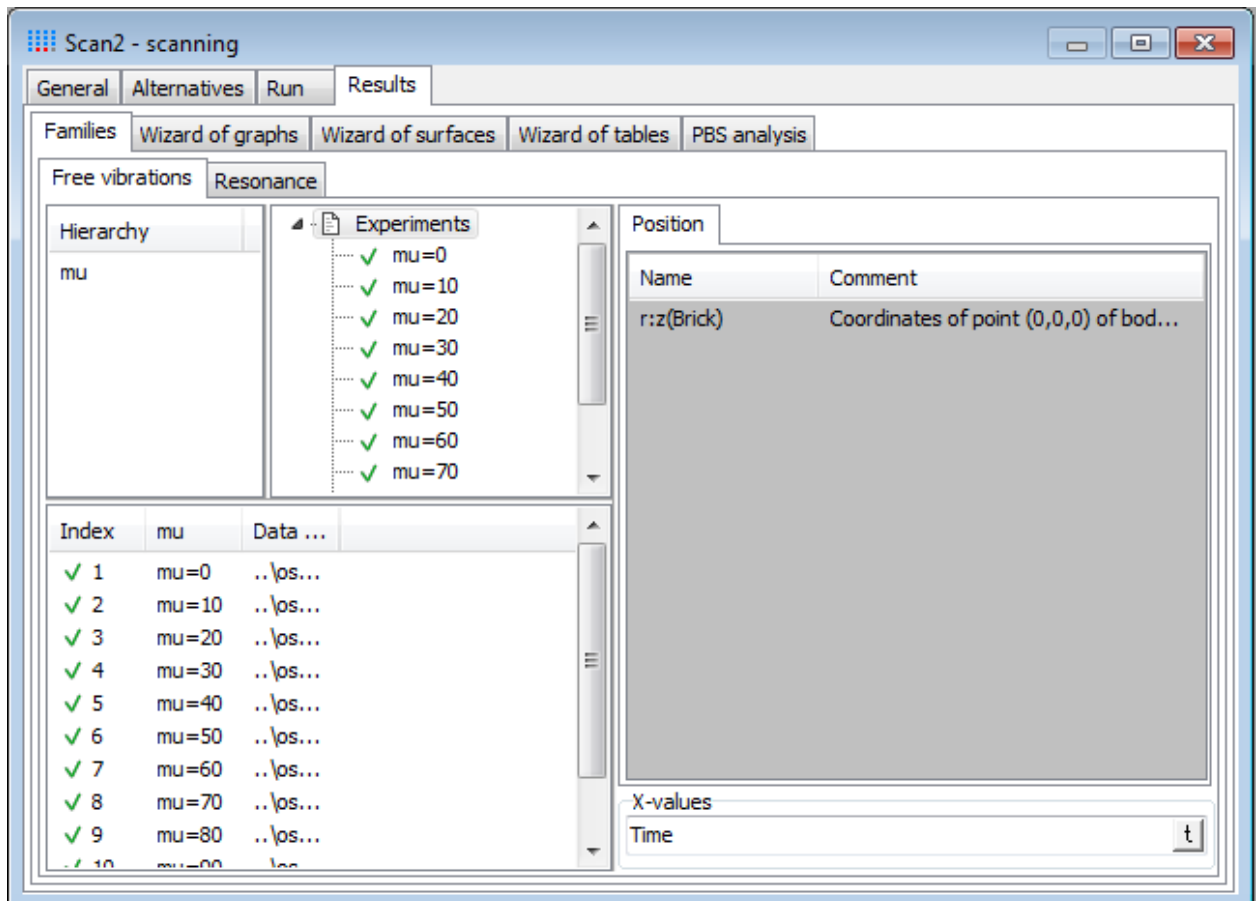

Figure 2.15. Results of the project
1. Select the **Results | Free vibrations** tab, see in Figure 2.15.